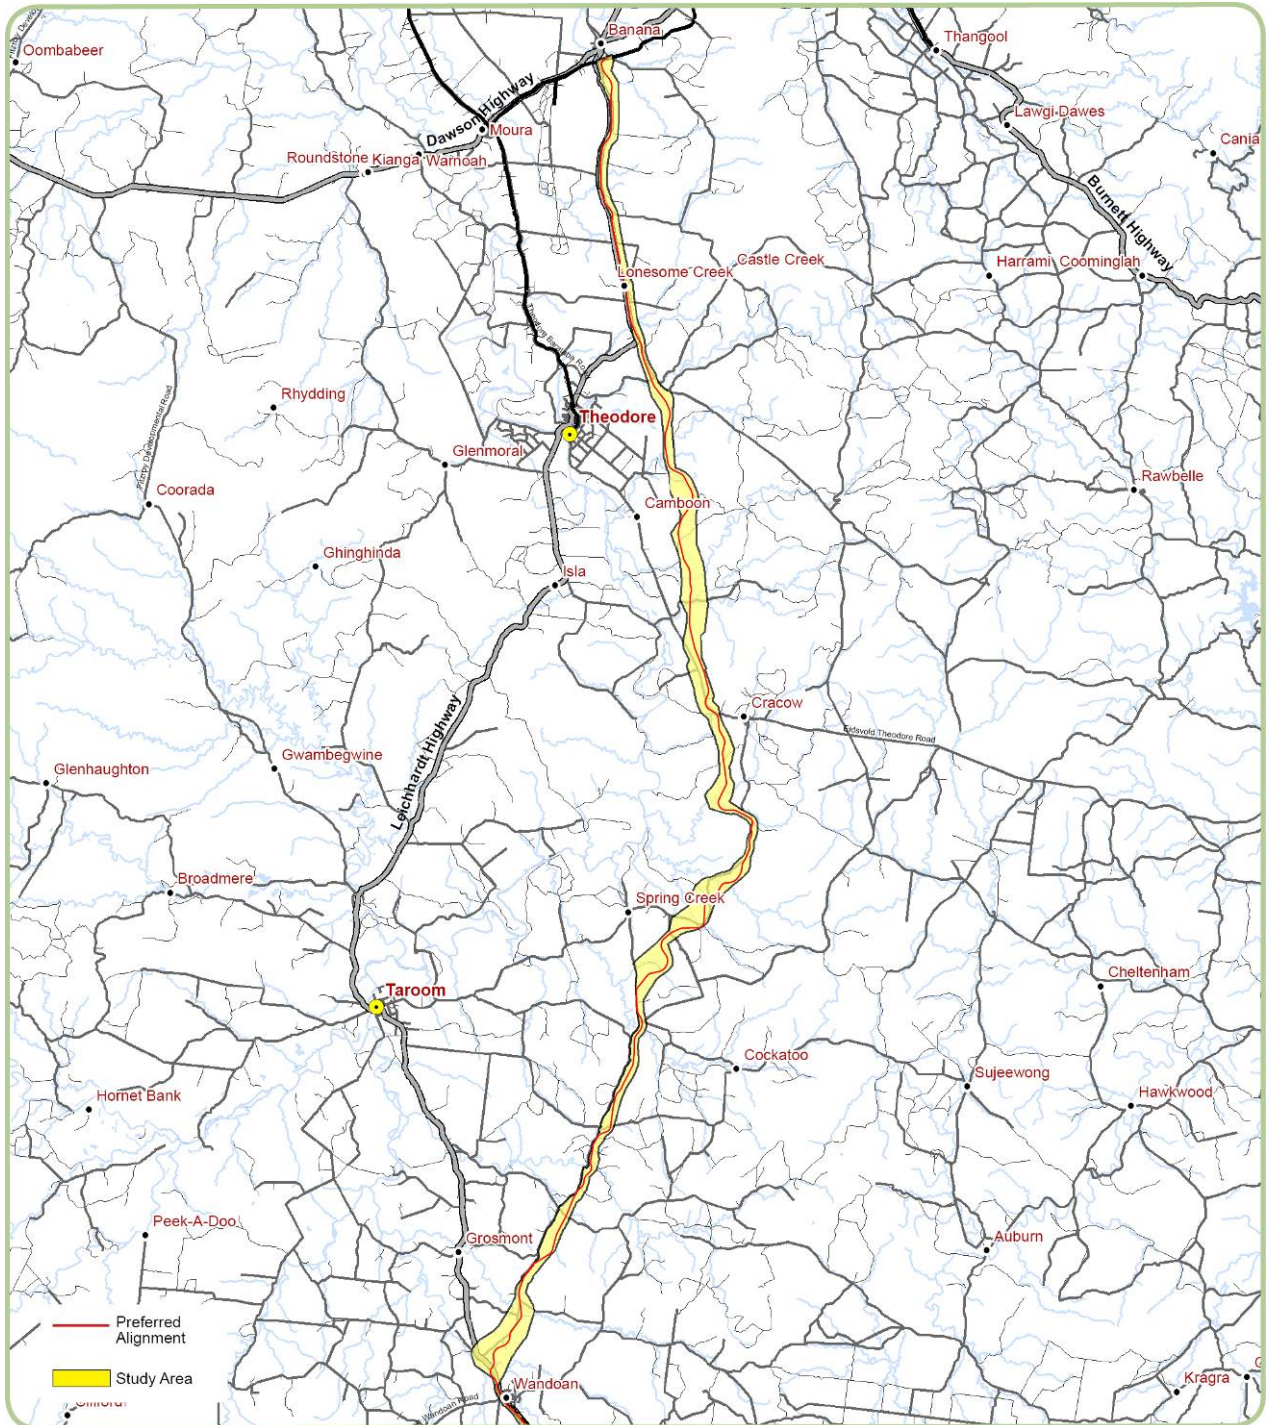

Figure 1: Surat Basin Rail Project Location
The Surat Basin Rail Project (SBR Project) is a new section of railway that will connect the Western Railway System (near Wandoan, 230 km west of Toowoomba) with the Moura Railway System (near Banana, located 130 km west of Gladstone), as shown on Figure 1.
- To work in accordance with the pest management principles and desired outcomes of any applicable national, state, regional and local weed management strategies and plans shown in Figure 1.